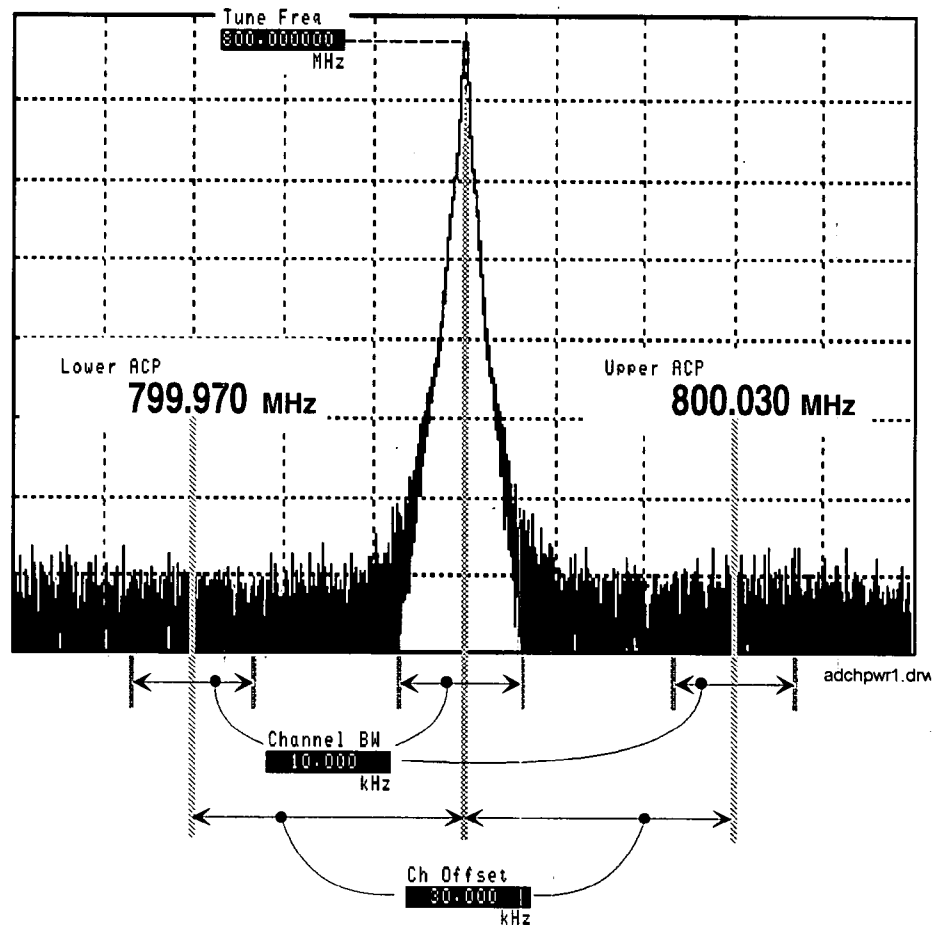

Figure 4-78. Relationship between Tune Freq, Ch Offset, and Channel BW fields.
**Channel BW** Use the Channel Bandwidth field to specify the bandwidth of the carrier and adjacent channels to be measured. (See Figure 4-78)
Use the Channel Offset field to enter the frequency difference between the Tune Freq setting and the center of the adjacent channels you want to measure. This is an absolute value; only positive values can be entered. (See Figure 4-78)